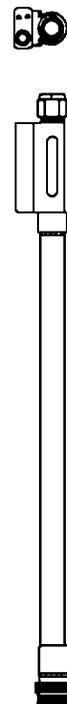

Figure 4-49. Regulator to Survival Kit Hose Assembly Taping
g. Repeat steps b-e for the regulator to survival kit hose assembly (P/N REDAR A11206-2) (figures 4-49 to 4-53).